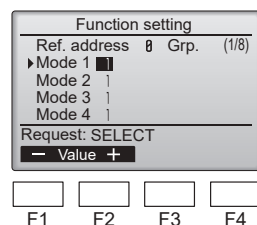
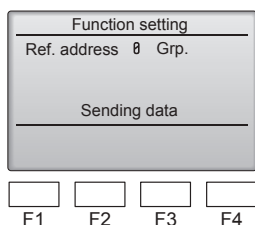

Fig. 7-15
Fig. 7-16
⑥ (Fig. 7-15) (Fig. 7-16)
① Going to the function select mode